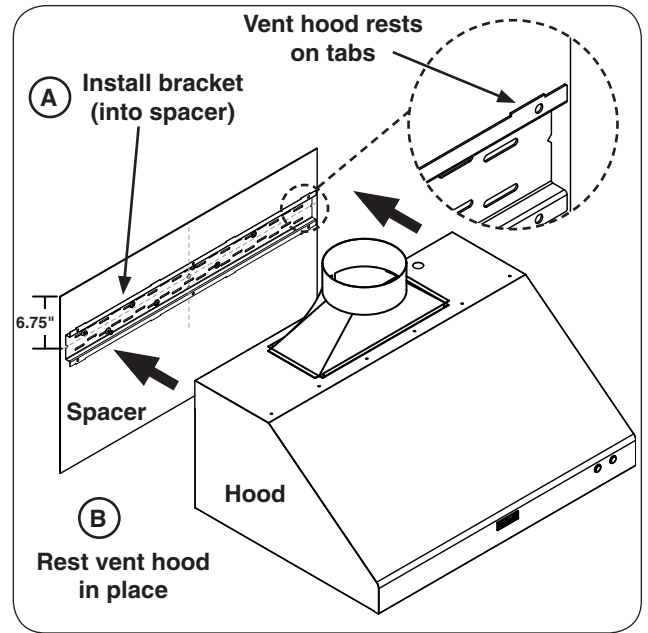
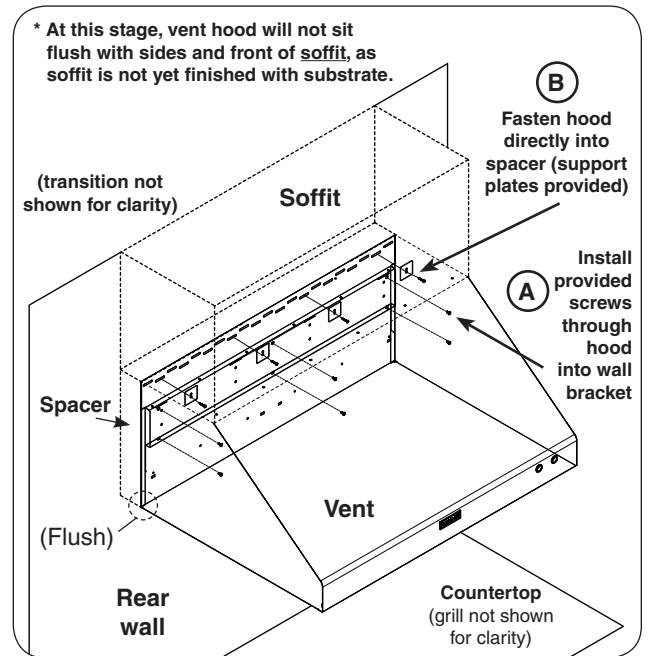

Fig. 11-1
Fig. 11-2 (42" shown)
1. Locate the (left to right) center of the spacer and pencil a vertical line. Pencil a horizontal line 6.75" down from the top of the spacer (see Fig. 11-1).
3. Using appropriate mounting hardware for the spacer construction; secure the bracket into the spacer (see Fig. 11-1).
4. Rest the vent hood onto the bracket, being sure the hood properly rests on the tabs found on the bracket. See Fig. 11-1. Ensure the sides and bottom of the vent hood sit flush with the spacer (see Fig. 11-2). (The spacer will already be finished with any applicable substrate, to allow for the vent hood to rest flush.)
5. From the inside of the vent hood; fasten the hood to the bracket using the provided screws (see Fig.11-2, Detail A).
6. From the inside of the vent hood, using appropriate mounting hardware for the spacer construction; secure the top portion of the hood directly into the spacer. Use the provided support plates when fastening, see Fig. 11-2, Detail B.